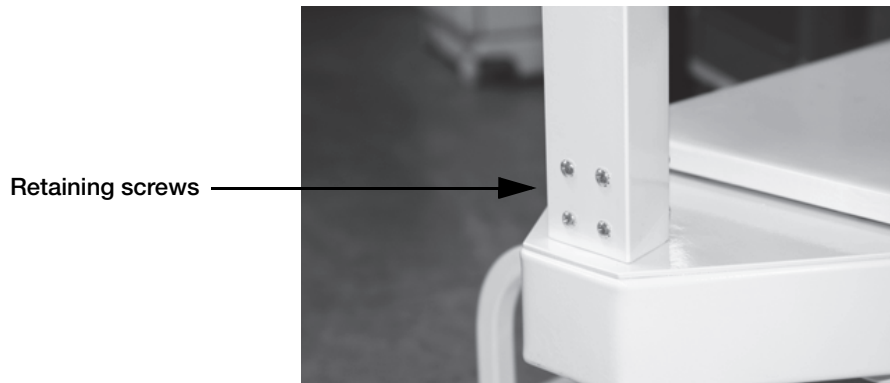

Figure 2-7. Pillar/Beam Assembly on Scale Base
7. Set the pillar/beam assembly on the scale base assembly. See Figure 2-7.